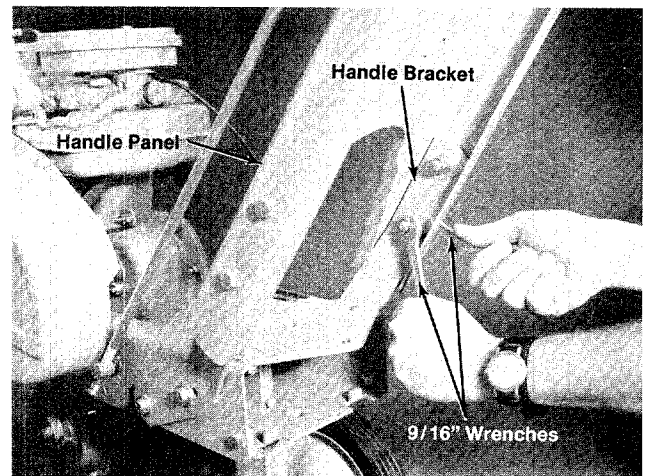

FIGURE 8.
Four hex bolts (H), lockwashers (D) and hex nuts (G) will be found in the hardware pack. See figure 8.